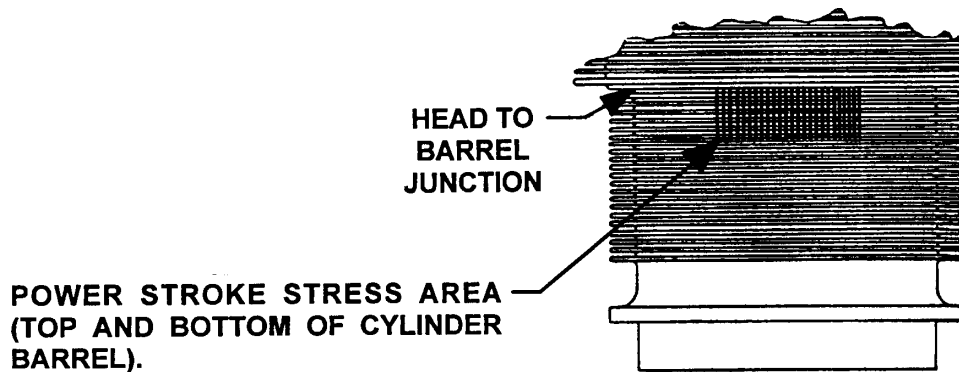

FIGURE 1
1. Power Stroke Stress Area of the Cylinder Barrel - See Figure 1.	(a) Cracks, broken or bent fins, (including bent fins that have been straightened) pitting, sharp indentations and chafing damage that alter the original barrel surface contour or reduce the thickness of the barrel fins - CYLINDER REPLACEMENT IS REQUIRED , unless damage can be repaired as described in Item 2 (a) below.